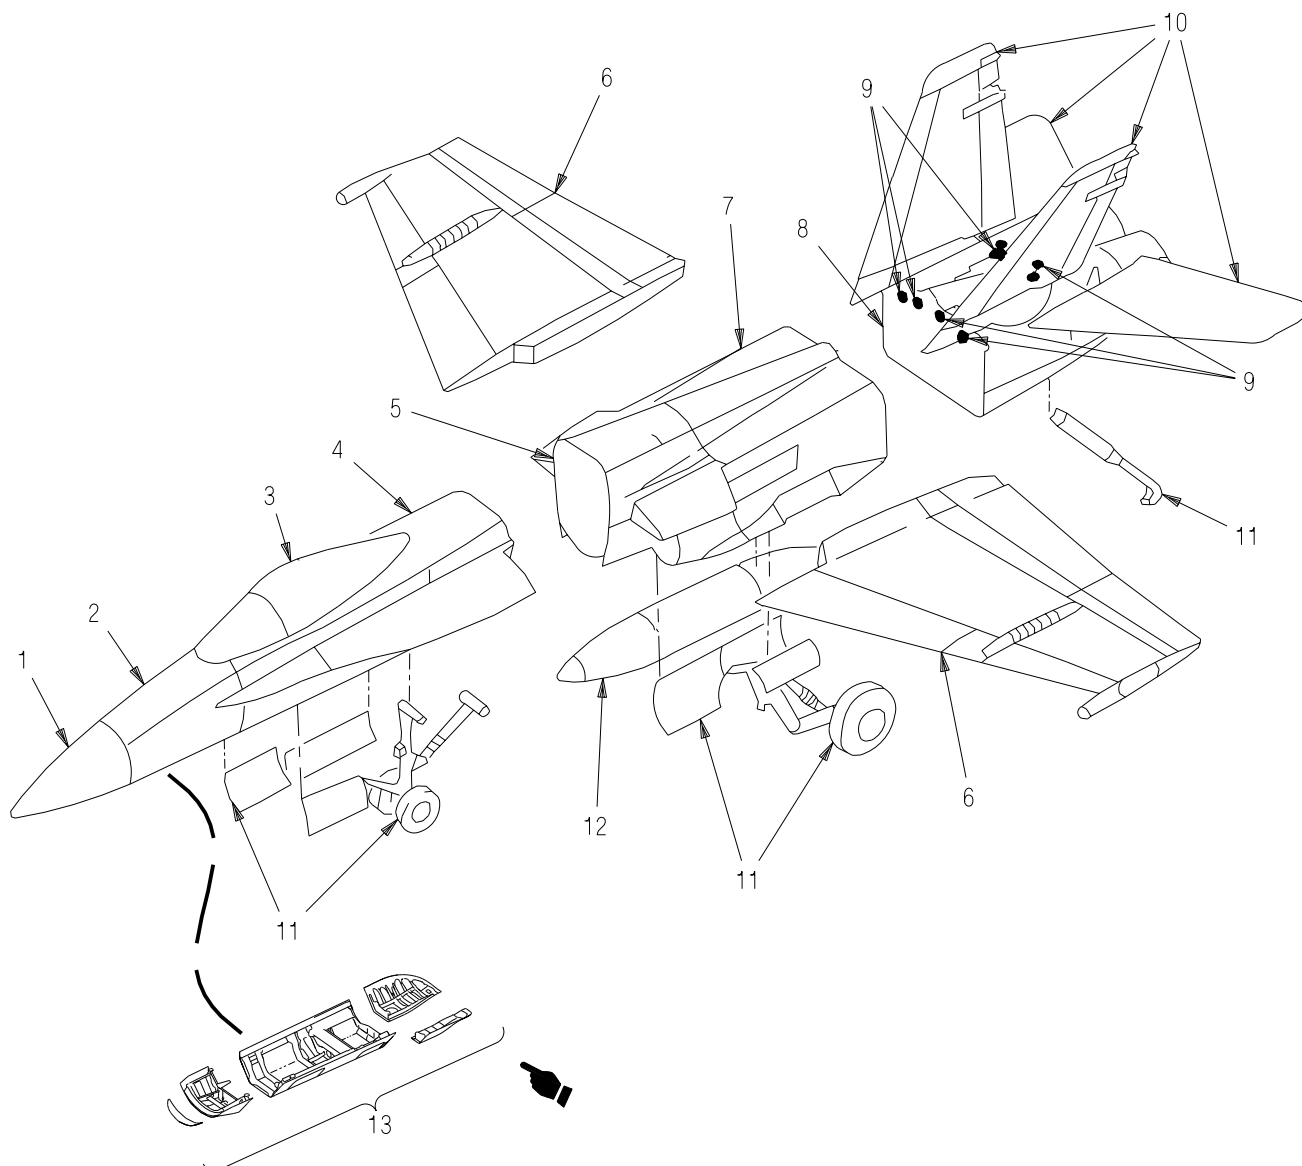

Figure 1. Corrosion Control Index (Sheet 1)
2. Figure 1 shows main components of the aircraft and where they are located in the manual.